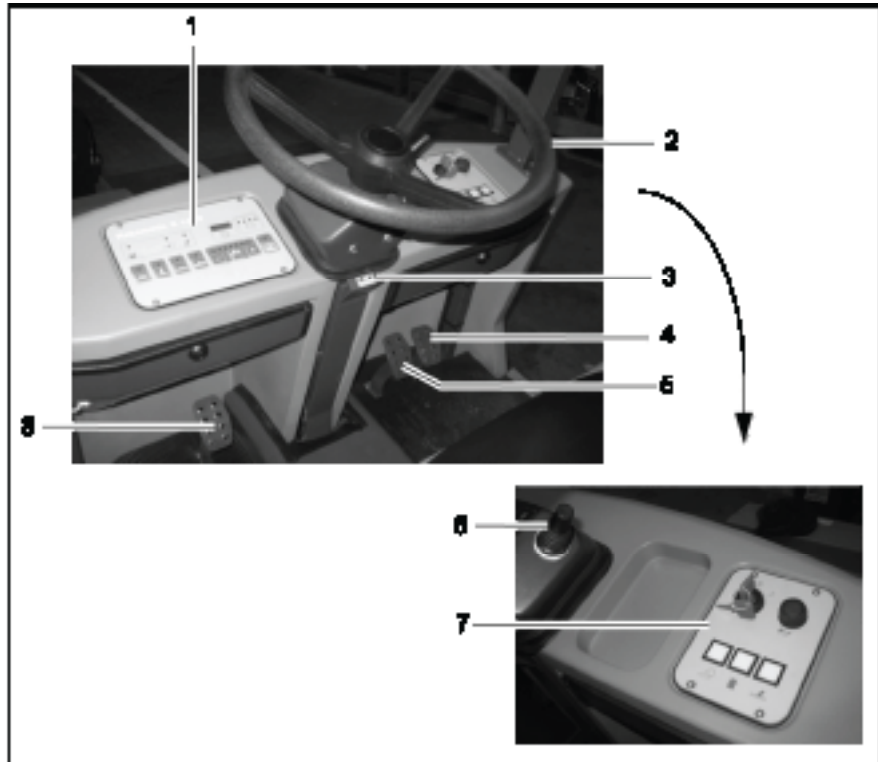
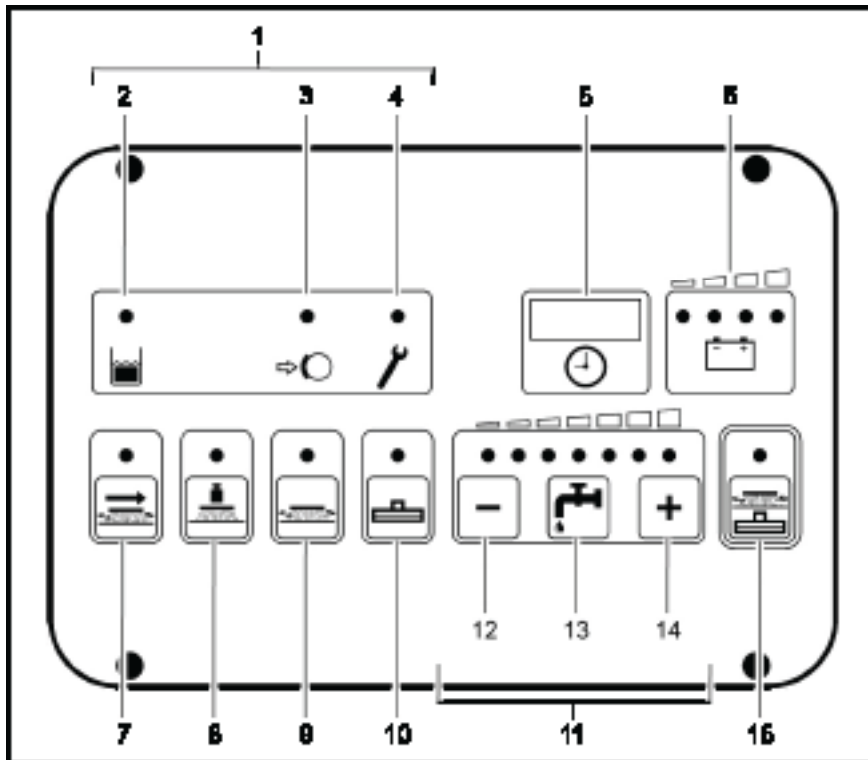

Fig 16
Fig 17
(Fig. 16/1)
(Fig. 16/2)
(Fig. 16/3)
(Fig. 16/4)
- Before actuating the accelerator, use the driving direction selection switch (Fig. 16/6) to set the direction of travel: forwards or reverse.
- To stop securely, apply the service brake (Fig. 16/5).
An acoustic warning signal (buzzer) is issued should the hydraulic motor overload. At the same time, the red alarm lamp (Fig. 16/4) lights up in the left-hand operating panel (Fig. 17/1) and the driving speed is reduced by approx. 50%. In addition, an error code appears in the service indicator (Fig. 17/5).
(Fig. 16/5)
(Fig. 16/6)
(Fig. 16/7)
(Fig. 16/8)
- When the parking brake is applied, the corresponding control lamp on the operating panel (Fig. 17/3) lights up red.
Before getting out of the vehicle apply the parking brake, set the driving direction selection switch (Fig. 16/6) to its neutral position and switch the key switch to off.
(Fig. 17/1) The indicator field enables the Admiral 38C to provide feedback on the operating status of the vehicle. This only relates to operating states which cannot be switched on or off via the operating panel: recovery tank full, parking brake applied and error messages.
(Fig. 17/2) The yellow control lamp lights up when the recovery tank has reached its maximum fill level. Also, a “beep” signal is issued every 15 seconds. In this case, a float switch switches the suction turbine off and the squeegee is raised.
(Fig. 17/3) The control lamp lights up red when the parking brake has been actuated via the pedal to the left of the steering column. If the traction drive
(Fig. 17/4)
At the same time, a four-digit code appears in the display of the service indicator (Fig. 17/5). This error code infers which fault has occurred (refer to Section 3.5.1). At the same time, the control lamps flash and an acoustic, pulsating signal is issued.
(Fig. 17/5) The four-digit LED serves to display the operating hours. When the
(Fig. 17/5) The same LED also serves for a more accurate determination of function faults. If a fault
(Fig. 17/6) After switching on the key switch, all four lamps light up when the battery is fully charged. As the battery is discharged during operation, the three right-hand lamps indicate the level of discharge by going out in sequence from right to left. When the left, red lamp flashes, it indicates that work must come to an end. Approximately three minutes later, the brushes will return to their home position. After a further three minutes, the suction turbines are deactivated and the squeegee is raised. When the red lamp lights up continuously, approximately one minute remains until the entire vehicle shuts down automatically.
(Fig. 17/7) This button is used to activate the side brush unit. After pressing the button, the
(Fig. 17/8) This button is used to increase the brush pressure. This may be necessary when the area to be cleaned is extremely dirty. The pressing force can be increased to max. 104 lb. If the function is active, the green control lamp lights up.
(Fig. 17/9) This button serves to switch the rotary brushes and solution feed on and off with simultaneous, respective lowering or raising of the brush head. If the function is active, the green control lamp lights up.
(Fig. 17/10) This button serves to switch the suction turbine on and off with simultaneous lowering and raising of the squeegee. If the function is active, the green control lamp lights up.
(Fig. 17/11) The solution consumption used during cleaning
(Fig. 17/12) The button serves to reduce the solution quantity
(Fig. 17/13) This button serves to switch the solution feed on and off
(Fig. 17/14) This button serves to increase the solution quantity
(Fig. 17/15) After pressing the green PowerBoss button, the most important basic functions for standard cleaning are switched on and off automatically in the correct sequence for the respective